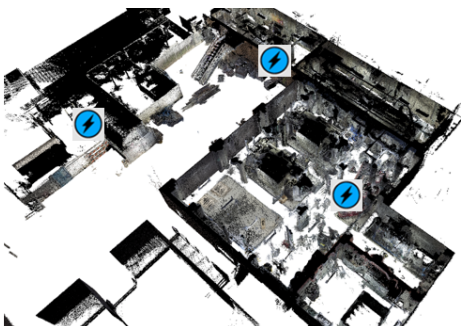

Figure 1-4 Targeted Flash scans for areas where more accuracy is important
- Scan with Orbis as usual, but create Flash scans in areas where accuracy is especially important, such as HVAC rooms. (See Figure 1-4, below.)